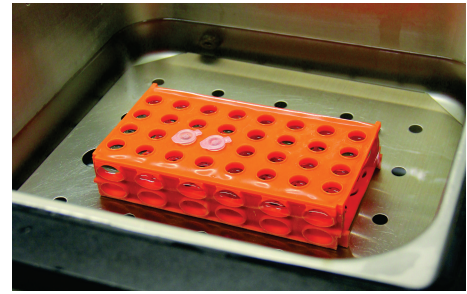

Fig. 13
13. After 30 minutes, move the ice bath containing the tubes next to the hot water bath. Make sure the tubes are tightly closed. As quickly as possible, transfer both tubes from the ice to the 42°C water bath for a “heat shock” of exactly 90 seconds (Fig. 13).